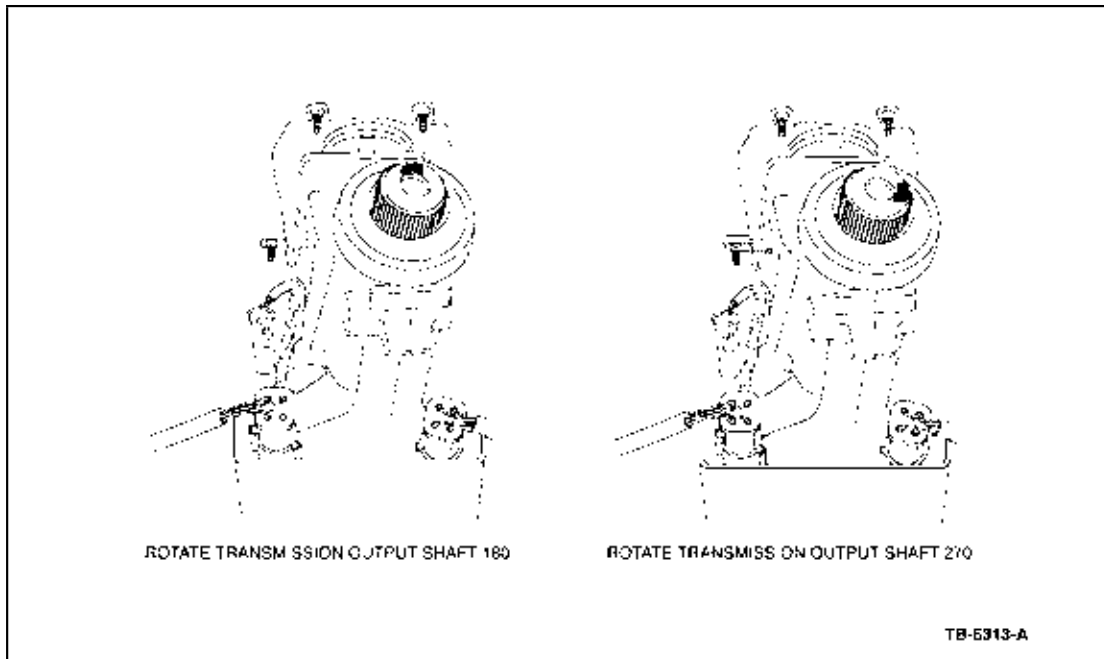

Figure 7 - Article 01-8-3
10. Continue re-indexing the driveshaft at the transmission output shaft until the lowest level of vibration is identified. Return the driveshaft to the position of the lowest amplitude reading. Paint a new mark on the transmission output shaft to align with the driveshaft yellow dot for future reference (Figure 7).